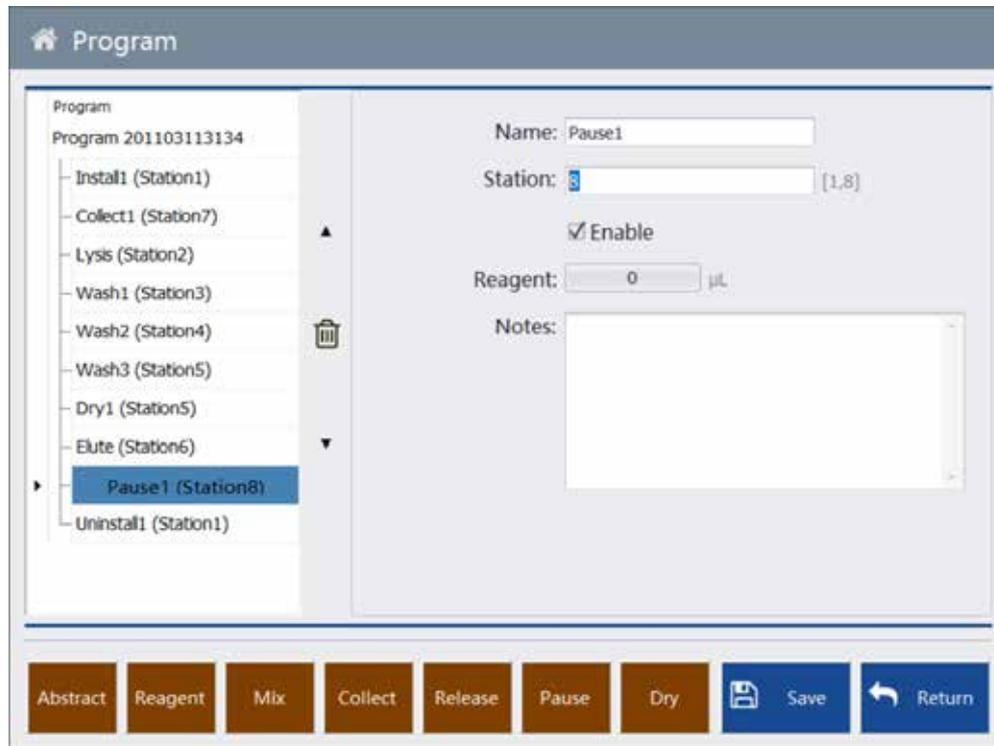

Figure 4-11 Pause
**Pause:** This function is used to pause the following steps of the program, and in the meantime to run the set work station to the hatch door and give prompt, generally used to add reagents or samples during the extraction process, as shown in Figure 4-11.